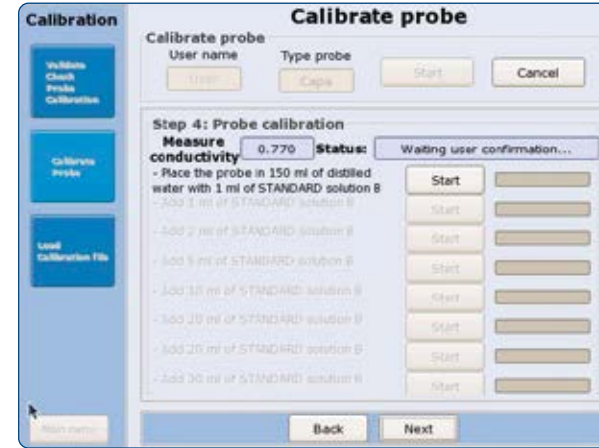

Figure 56: Incyte Sensor calibration.
12. Pour 150 mL deionized water in a clean beaker. In the following steps 1 to 30 mL of Solution B is added gradually to the deionized water. Press start (Figure 56).